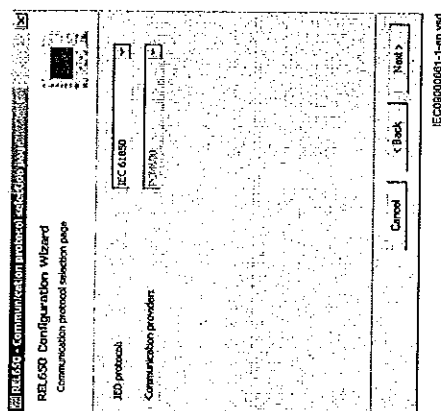

Figure 19: *PCM600: Communication protocol selection wizard*
4. Select the IED Communication protocol, see Figure 19.